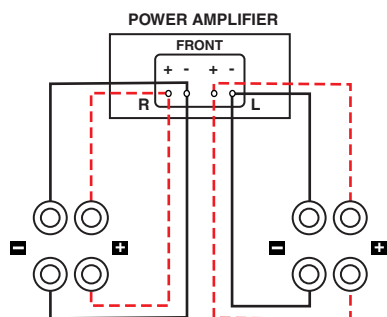

Figure 6
**Bi-Wiring** (Figure 6) can provide noticeable improvements in the overall transparency of your loudspeakers. Run separate speaker wires to the low and high frequency drivers from a single amplifier: after removing the jumpers, connect one set of speaker wires to the upper terminals on each speaker and one set (usually heavier gauge) wires to the lower terminals. Connect the other ends of both wire sets to the corresponding amplifier outputs.